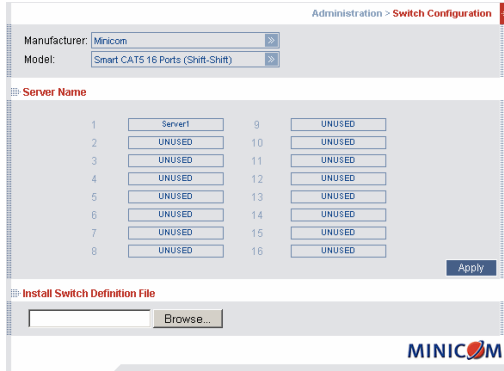

Figure 10 Switch configuration
1. From the menu click **Switch Configuration**. The KVM Switch Configuration window appear, see Figure 10.